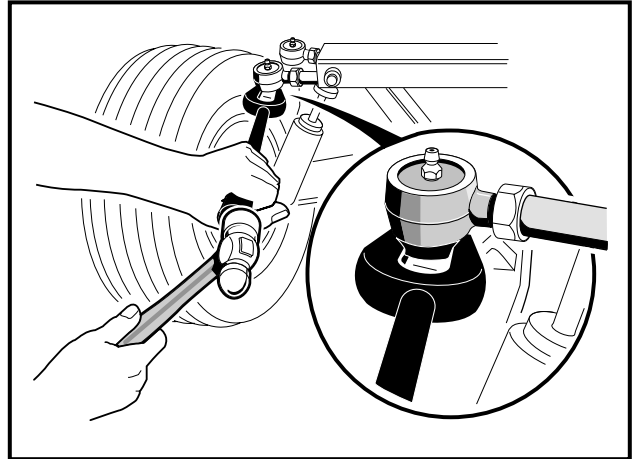
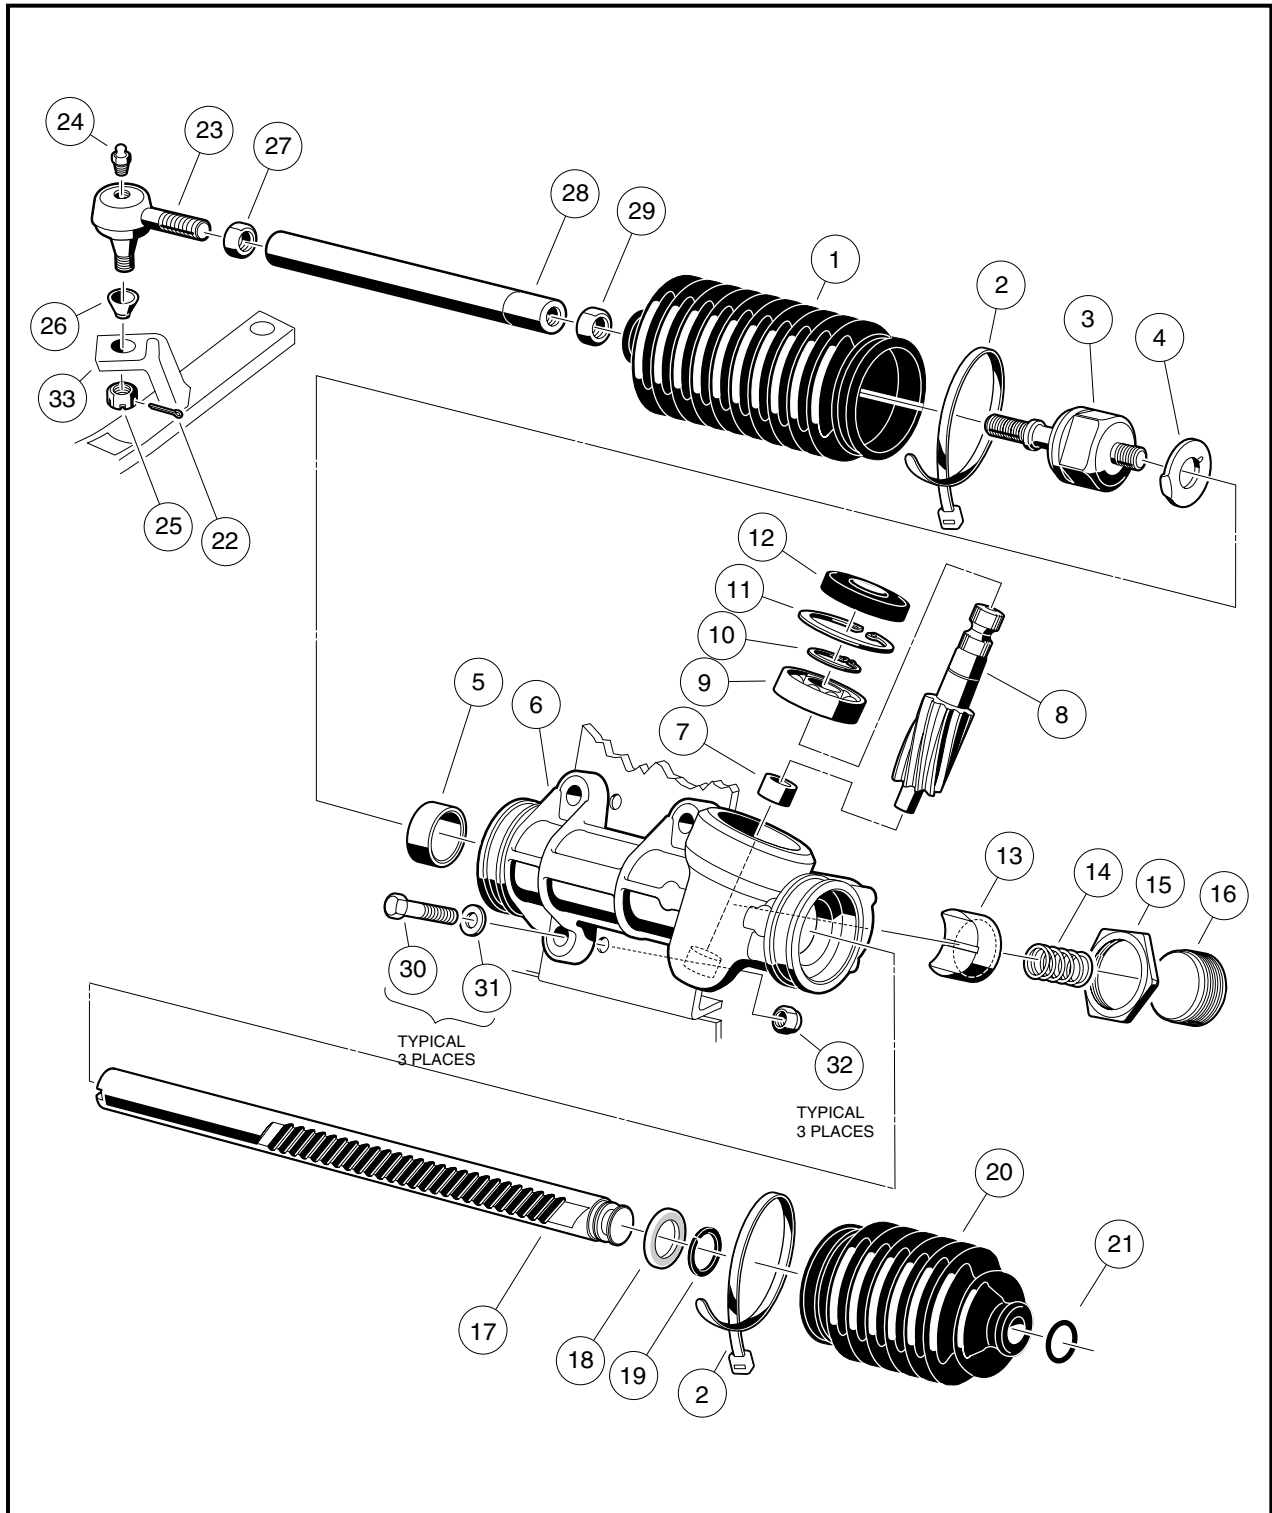
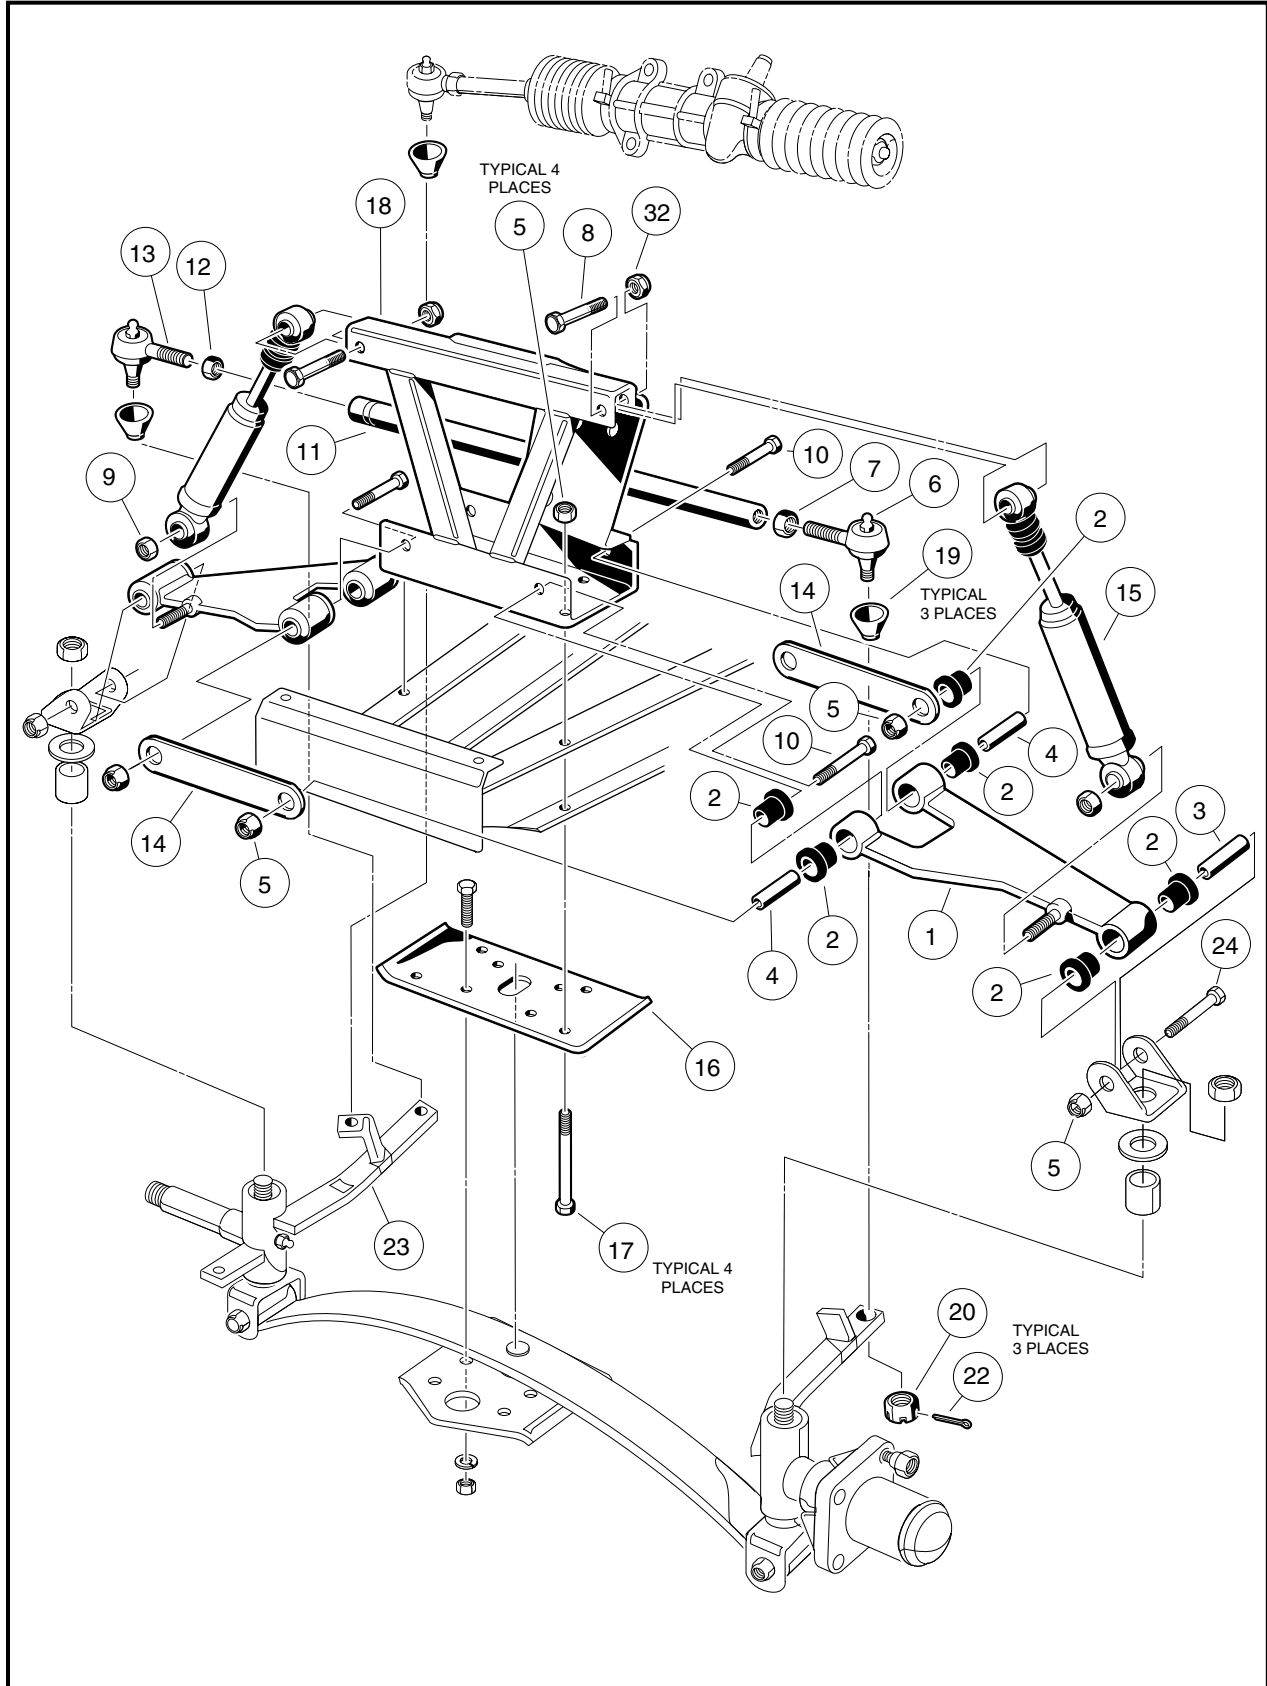
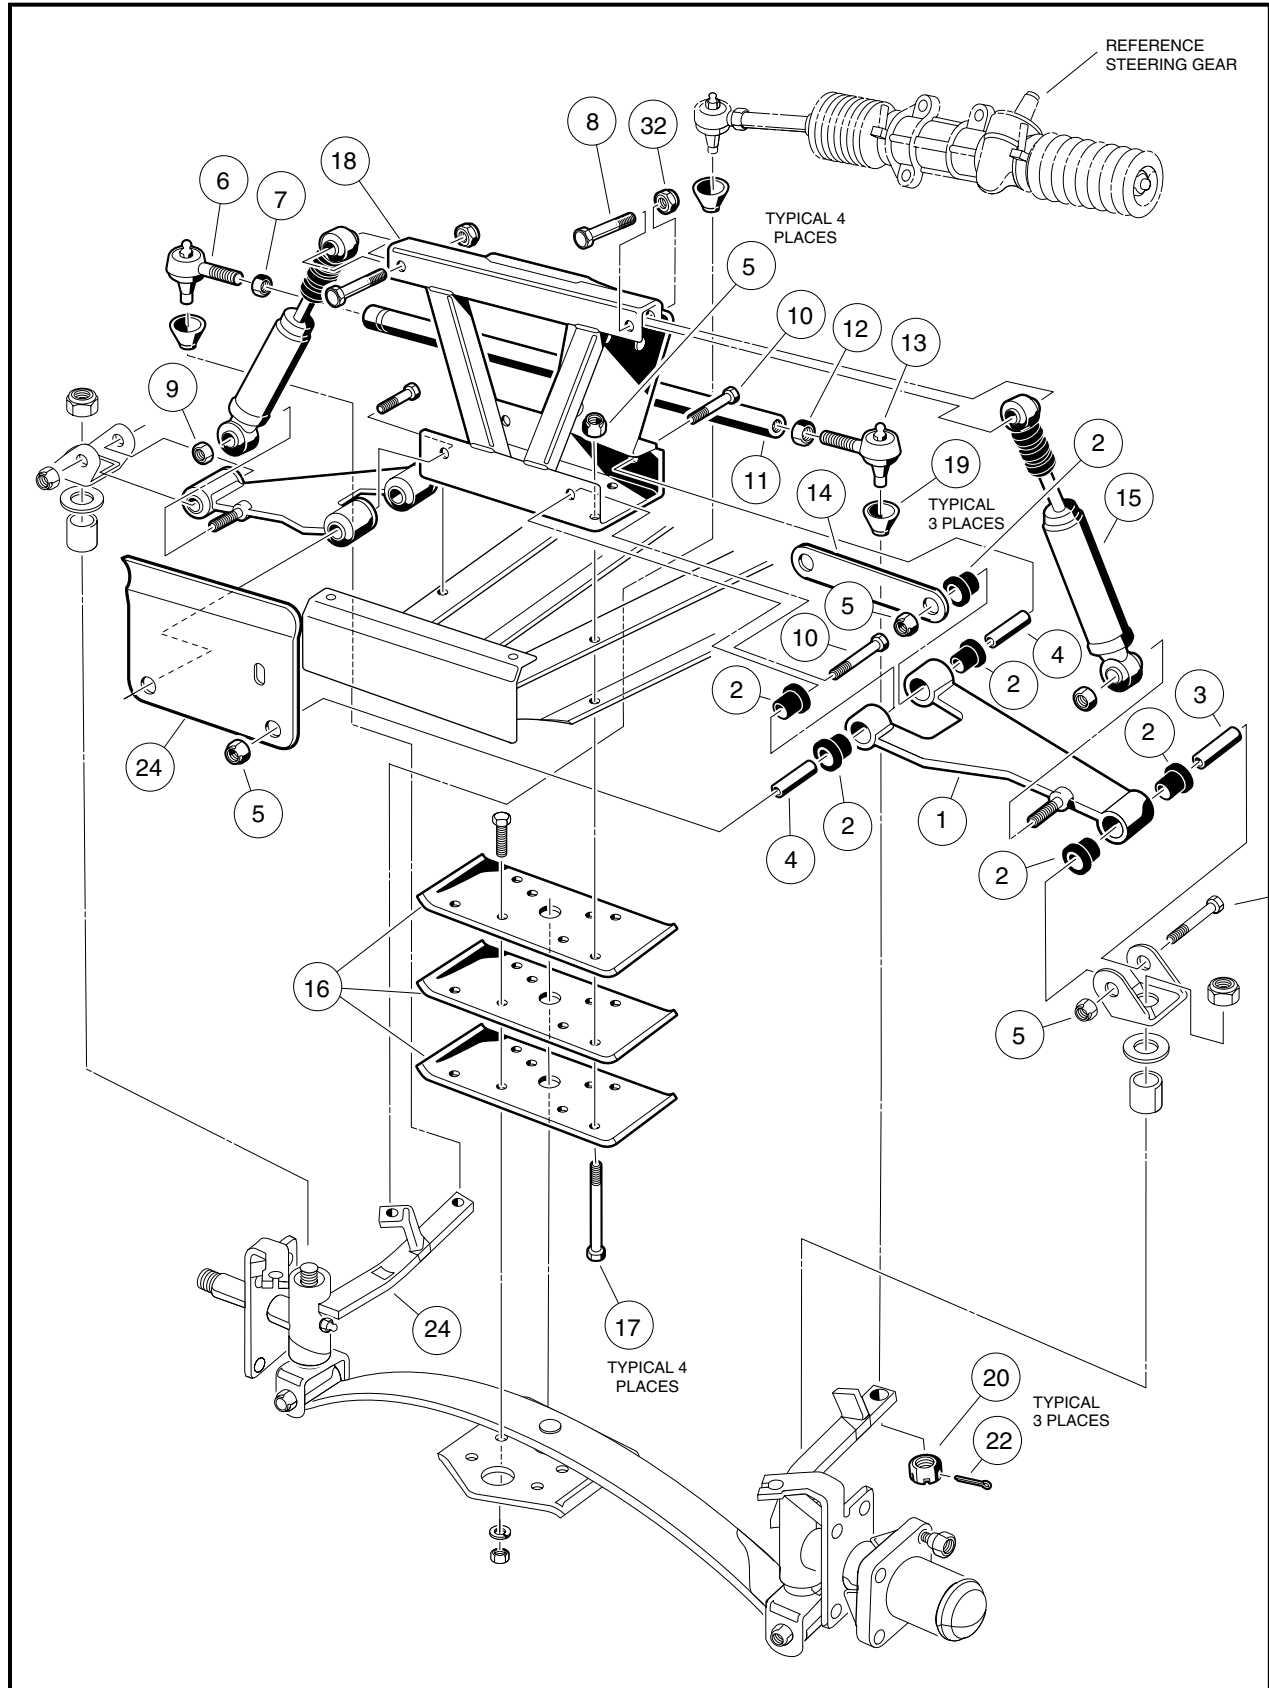

Figure 7-8 Ball Joint Tool
Figure 7-12 Steering Gear
Figure 7-20 Two-Wheel Brake Vehicle – Upper Portion
Figure 7-22 Four-Wheel Brake Vehicle – Upper Portion
2. Loosen the nuts (27 and 29) and turn the drag link (28) (**Figure 7-12, Page 7-11**) to adjust the drag link rod. Adjust the link rod with the steering wheel turned all the way to the right, so the passenger side spindle stop lightly touches the passenger side A-plate. The internal stop on the rack must reach its limit of travel at the same time the spindle stops against the passenger side A-plate (with vehicle wheels turned to the right).
3. When all adjustments have been completed, tighten the nuts (27 and 29) on the drag link assembly with an open end wrench. Tighten nuts to 21 ft-lb (28.4 N·m) (**Figure 7-12, Page 7-11**).
- When tightening the nuts (27 and 29), make sure the drag link (28) does not turn (**Figure 7-12, Page 7-11**).
4. Straighten wheels and then turn steering wheel from lock to lock. Wheels should turn smoothly and easily. If steering wheel does not turn smoothly and easily, inspect steering assemblies; e.g., ball joints (23) (**Figure 7-12, Page 7-11**) and (6 and 13) (**Figure 7-20, Page 7-18**), spindle bushings (3 and 4) (**Figure 7-21, Page 7-19**), wave washers (20) (**Figure 7-21, Page 7-19**), and rack assembly (17) (**Figure 7-12, Page 7-11**). Also inspect front suspension assemblies; e.g., A-plates (1) (**Figure 7-20, Page 7-18**) urethane bushings (2) (**Figure 7-20, Page 7-18**) and leaf springs (6) (**Figure 7-21, Page 7-19**). Replace components as necessary.
2. Remove the cotter pin (22) and ball joint retaining nut (25) (**Figure 7-12, Page 7-11**).
3. Using a ball joint removal tool, remove the ball joint (23) (**Figure 7-12, Page 7-11**) from the spindle assembly. See **Figure 7-8, Page 7-9**.
4. Remove the bolts (30), washers (31), and lock nuts (32) from the steering rack assembly mounting bracket (**Figure 7-12, Page 7-11**).
- The ball joint (23) (**Figure 7-12, Page 7-11**) has left-hand threads.
1. Remove ball joint from the spindle and inspect it for excessive wear (**Figure 7-8, Page 7-9**).
2. Remove the drag link (28) (**Figure 7-12, Page 7-11**).
3. Remove both bellows clamps (2) (plastic wire ties).
4. Remove the hex nut (29) and slide off the dust seal bellows (1).
5. Remove the retaining ring (21), then slide off dust seal bellows (20).
6. Remove the rack screw lock nut (15), rack guide screw (16), rack guide pressure spring (14), and the rack guide (13) (**Figure 7-12, Page 7-11**).
7. Remove the universal joint assembly from the pinion (8) by fully removing the bolt and then sliding off the universal joint.
8. If necessary, remove the dust seal (12). **See following NOTE.**
9. Using snap ring pliers, remove the internal snap ring (11) (**Figure 7-12, Page 7-11**).
11. If the ball bearing (9) has been damaged, remove the external snap ring (10) (**Figure 7-12, Page 7-11**) and press the bearing off (**Figure 7-10, Page 7-9**).
12. Remove retaining ring (19) and stop washer (18), then remove rack (17) from housing (6) (**Figure 7-12, Page 7-11**).
14. Inspect the bushing (5) for excessive wear. If wear is excessive, replace the steering box assembly (CCI P/N 101878302) (**Figure 7-12, Page 7-11**).
3. Apply a light coating of EP grease to the teeth of the rack (17), then slide the rack through the bushing (5) and housing (6). Install the stop washer (18) and retaining ring (19) to the end of the rack (Figure 7-12, Page 7-11).
4. If the bearing (9) was removed, press on a new bearing, exerting all pressure on the inner race (grease the bearing before installing it). Then install the external snap ring (10) (**Figure 7-12, Page 7-11**).
5. If the needle bearing (7) is damaged, the steering box assembly (CCI P/N 101878302) must be replaced (**Figure 7-12, Page 7-11**).
6. Install pinion (8) and bearing (9) assembly into the housing (6) (**Figure 7-12, Page 7-11**). Make sure the rack gear teeth will mesh with the gear teeth on the pinion. The rack may need to be rotated slightly while lightly tapping on the pinion-bearing assembly with a rubber mallet. **See following CAUTION.**
7. Install the internal snap ring (11) (**Figure 7-12, Page 7-11**).
9. Apply a small amount of grease to the rack guide (13) where it comes into contact with the rack (17) (**Figure 7-12, Page 7-11**).
10. Place a few drops of Loctite[®] 222 to the threads of the screw (16) (**Figure 7-12, Page 7-11**).
11. Install the rack guide (13), pressure spring (14), and screw (16). The screw should be threaded in until a rotational torque of 10 in-lb (1.13 N·m) is achieved (**Figure 7-12, Page 7-11**).
12. Install the dust seal bellows (20) and retaining ring (21) (**Figure 7-12, Page 7-11**).
13. Install the dust seal bellows (1) and hex nut (29) (**Figure 7-12, Page 7-11**).